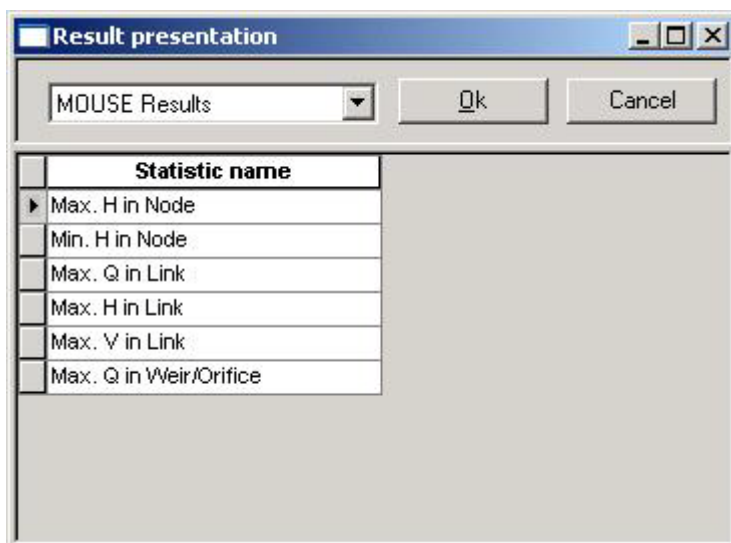

Figure 23.15 Adding a statistics layer
- Create a statistics layer with Hmax by going to 'Model Results|Add Statistics Layer'. The dialog in Figure 23.15 comes up, choose 'Max. H in Node' and press the 'Ok' button.